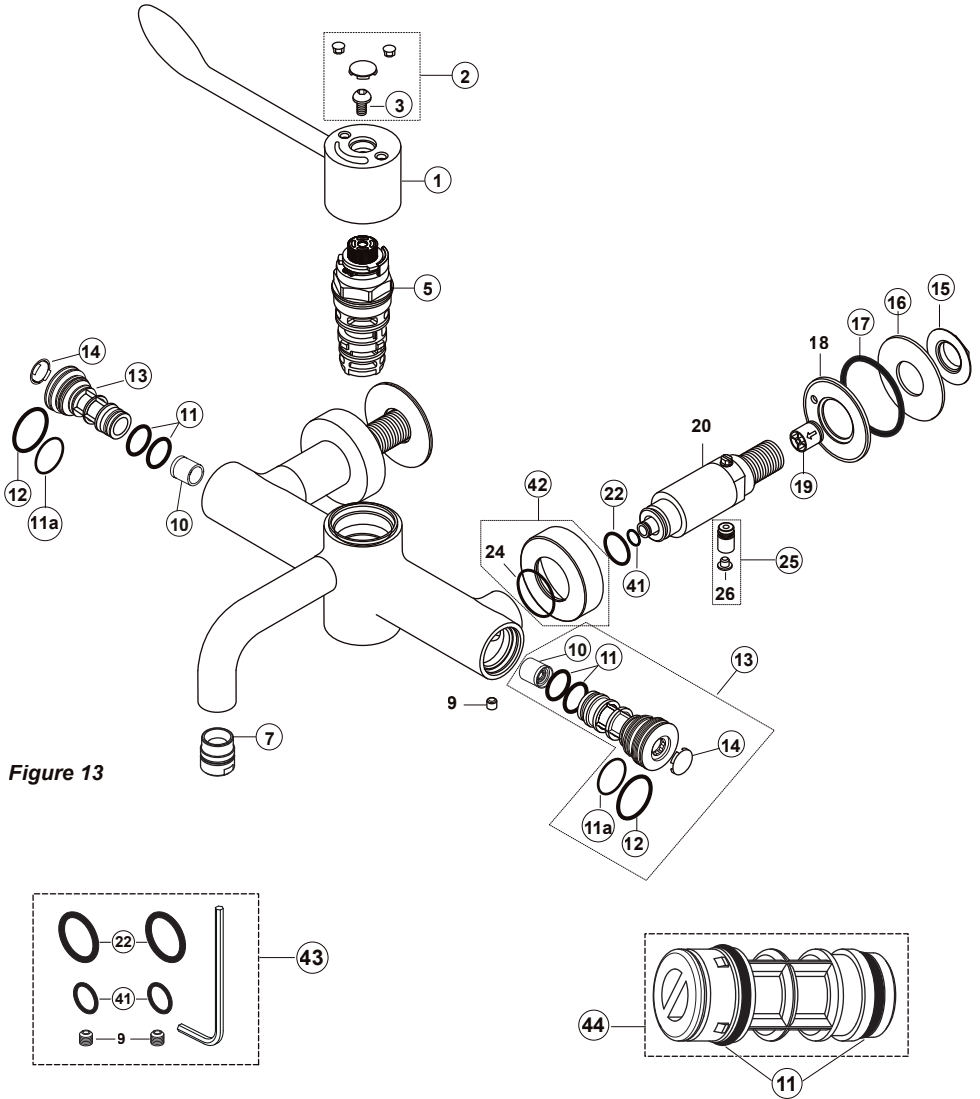

Figure 13
To prevent back siphonage of water to the supply pipes, check valves are fitted inside the inlet tails (19) – see figure 13. These check valves can be maintained/replaced, but **MUST NOT BE REMOVED**.
*To achieve a suitable flow rate where supply pressures are very low it may be necessary to remove the flow regulator (item 10 figure 13).